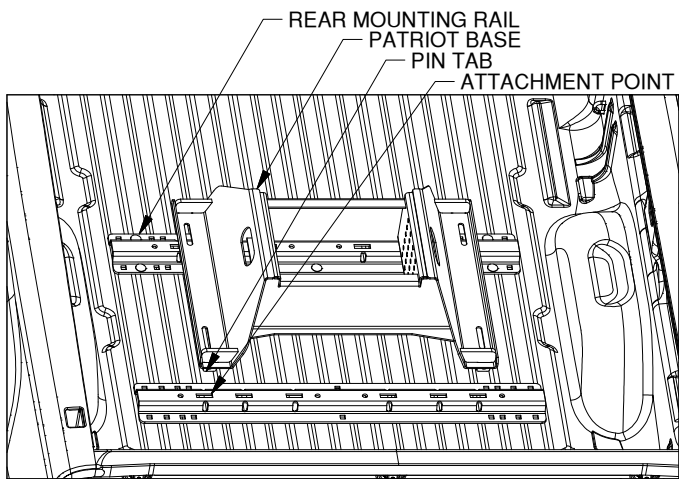

Figure E3: View into truck bed looking back at tailgate.
2. **Position the forward mounting rail.** For this step the base which will be used in the mounting rails is required. Place a mounting rail into the truck bed in front of the rear mounting rail. Place the base over the rail attachment points and carefully lower it until the pin tabs pass through the attachment points on the rear mounting rail. Attach the forward mounting rail to the forward mounting points on the base. The base should rest flat against the top of the rails, see Figure E3. With the base still attached ensure that the forward rail is centered in the truck bed.